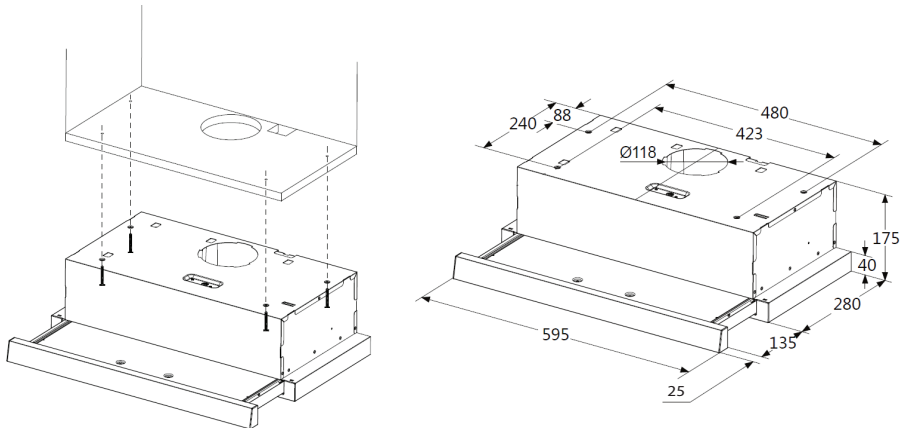

Fig. 5
4. Drill holes and attach the hood according to Fig. 5 or Fig. 6.